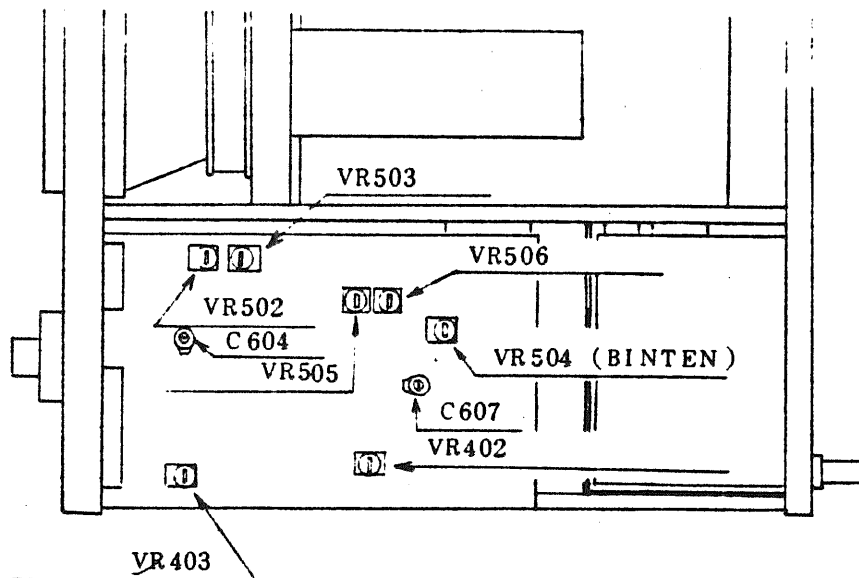
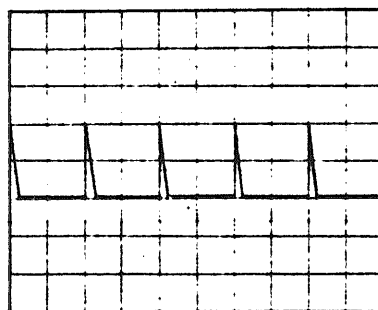

Figure 36 (Top view)
Figure 38
Operate the instrument as an XY-scope and apply a square wave signal of 50 mVp-p to the X-axis input using the same signal generator used for vertical axis calibration. Set the X-axis sensitivity at 5 mV/DIV and so adjust the XY GAIN ADJ control (Figure 36, VR402) that the signal is deflected with an amplitude of 10 DIV on the screen.
Ground the input circuits of both CH1 and CH2 channels. Operate the instrument as a single-channel oscilloscope with CH1 channel alone. Measure the DC voltage between TP-8 and ground (Figure 34), using a multimeter, a digital voltmeter or an oscilloscope. So adjust the CH1 TRIG DC BAL (Figure 36, VR403) so that the DC voltage becomes 0 V \pm 0.2 V.
- (3) So adjust the A SWEEP CAL (Figure 36, R502) that the displayed waveform conforms with scale divisions of the graticule.
- (4) Change the input signal to a time marker signal of 10 μ S or sinusoidal wave signal of 100 kHz and change the TIME/DIV switch to 10 μ S.
- (5) So adjust the A 10 μ S CAL (Figure 36, C604) that the displayed signal waveform conforms with scale divisions of the graticule.
- (1) Apply a signal of 1 mS (or 1 kHz) to the vertical axis and display the signal with an appropriate amplitude on the CRT screen.
- (2) Set the smaller knob of TIME/DIV switch (36) at 0.5 mS and the larger knob at 1 mS. So adjust the DELAY TIME control that more than five peaks are displayed on the CRT screen.
- (3) So adjust the B SWEEP CAL control (Figure 36, VR506) that the peaks of the displayed waveform are aligned with every other graticule lines as shown in Figure 38.
- (4) Change the input signal to 10 μ S (or 100 kHz) and change the smaller knob of the TIME/DIV switch to 10 μ S and the larger knob to 20 μ S.
- (5) So adjust the B 10 μ S CAL control (Figure 36, C607) that the peaks are aligned with the graticule scale division lines.
- (1) Set the larger knob of TIME/DIV switch (36) at 1 mS and the smaller knob at 0.5 mS. Press the A button 43 of the HORIZ DISPLAY switch.
- (2) Set the white dot of the horizontal POSITION knob in the upward position. So adjust the A SWEEP POSITION control (Figure 36, VR503) that the sweep starts from the left hand end of the graticule.
- (3) Press the B button (45) of the HORIZ DISPLAY switch.
- (4) So adjust the B SWEEP POSITION control (Figure 36, VR505) that the sweep starts from the left hand end of the graticule.
- (1) Press the A INTEN button (44) of the HORIZ DISPLAY switch. Set the larger knob of TIME/DIV switch (36) at 1 mS and the smaller knob at 0.1 mS.
- (2) Adjust to appropriate brightness the accentuated portion of the B sweep with the B SWEEP INTEN ADJ control (Figure 36, VR504).